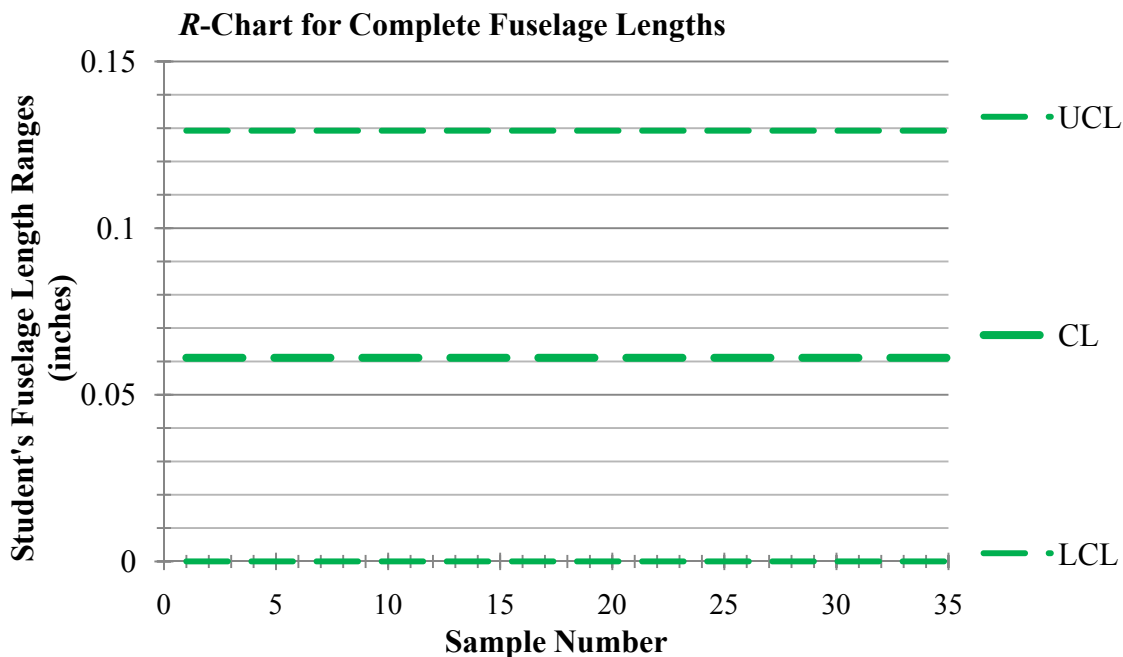

Figure 16.3.7: The *R*-Chart for the sample range of lengths of completed fuselages from the Boeing 787 model activity
Table 16.3.1 is an example of a class set of data collected under optimal conditions. We already have a good idea of what the values are for the Upper Control Limit (UCL), the Center Line (CL), and the Lower Control Limit (LCL) from Figure 16.3.7. Recall this *R*-Chart was given earlier with very little explanation as to why these values set standards to measure natural variability within the samples.